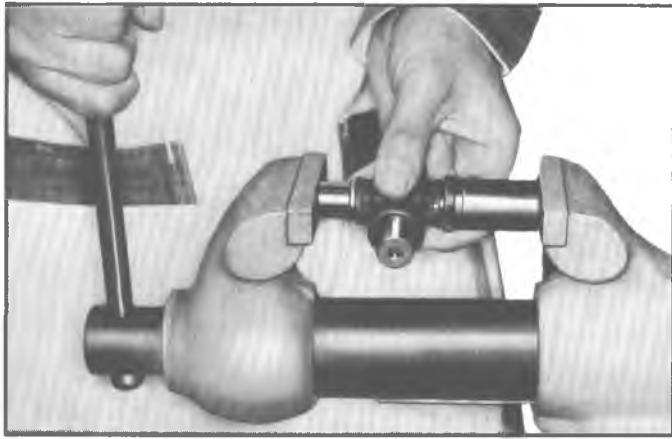

Fig. 26—Trunnion Seal Installer
**NOTE:** If installing seal on small size trunnion, seal installer J-21548 should be used, shown in figure 26.